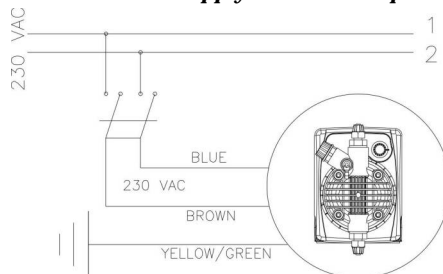

Fig. 4
1. **Disconnect the pins from the mains or by means of a two poles switch with 3 mm minimum distance between the contacts. (Fig. 4).**
1. Disconnect the pins from the mains or by means of a two poles switch with 3 mm minimum distance between the contacts. (Fig. 4).
- b. - Carefully observe the regulations in force in the various countries as regards electrical installations (Fig. 4). **When the supply cable is devoid of a plug, the equipment should be connected to the supply mains by means of a single-pole circuit breaker having a minimum distance of 3 mm between the contacts. Before accessing any of the electrical parts, make sure that all the supply circuits are open.**